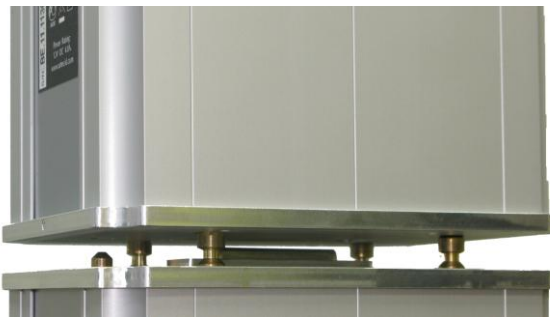

FIG 60. B3D B Recognition Unit assembly
- Carefully put 3D Camera on the top of Pole so the five pins on the top of Pole go inside the five fixing holes on the bottom of 3D Camera (FIG 60).